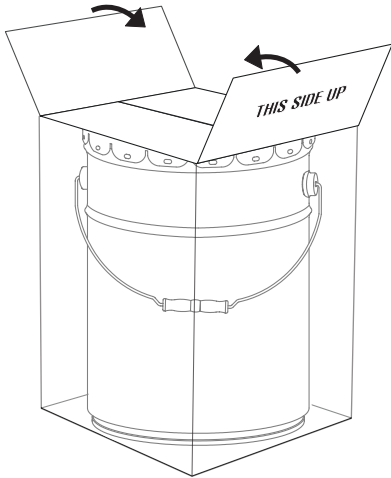

Figure 3
6. Fold flaps on top of carton so that they meet. "THIS SIDE UP" must be visible on the outside of the carton. (See Figure 3)